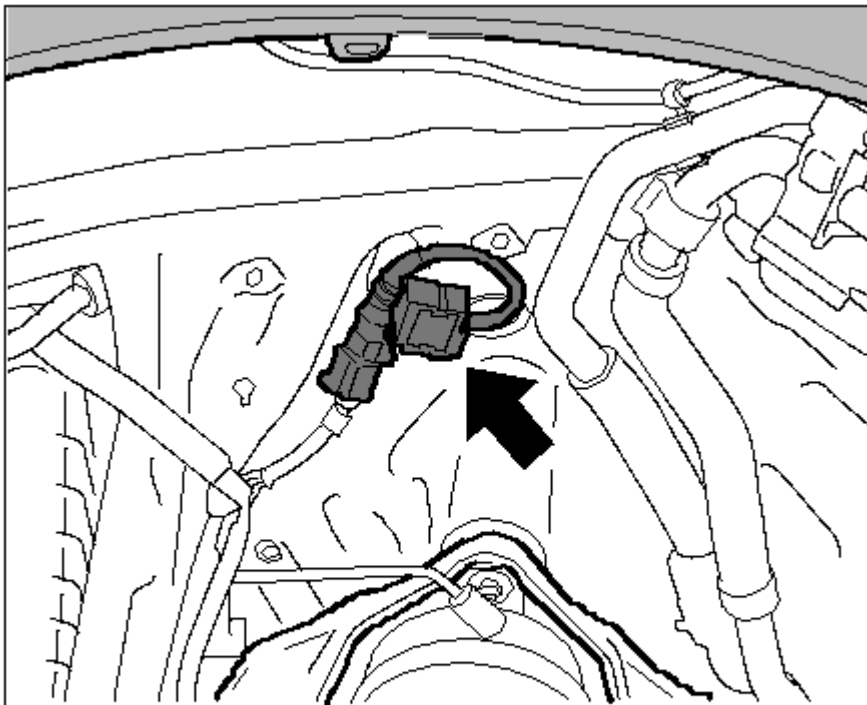

Fig. 107: Sensor for body at front
1. First push together the sensor connector -**arrow**- firmly (makes removal easier!). Lift connector lock and then remove connector! See **Fig. 107**.